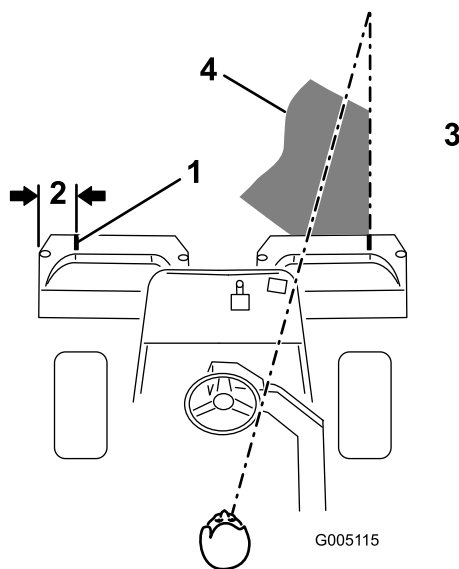
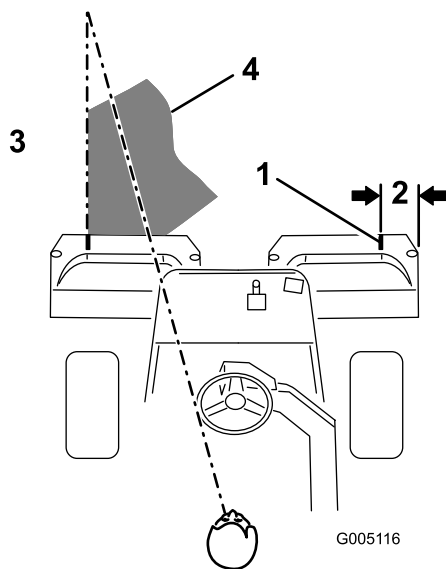

Figure 23
Figure 24
2. Either place a strip of white tape or paint a line onto each basket paralleling the outer edge of each basket (Figure 23).
3. Overlap a minimal amount with the previous cut on return passes. To assist in maintaining a straight line across the green and keep the machine an equal distance from the edge of the previous cut, establish an imaginary sight line approximately 6 to 10 ft (1.8 to 3 m) ahead of the machine to the edge of the uncut portion of the green (Figure 23 and Figure 24). Some find it useful to include the outer edge of the steering wheel as part of the sight line; i.e. keep the steering wheel edge aligned with a point that is always kept the same distance away from the front of the machine (Figure 23 and Figure 24).